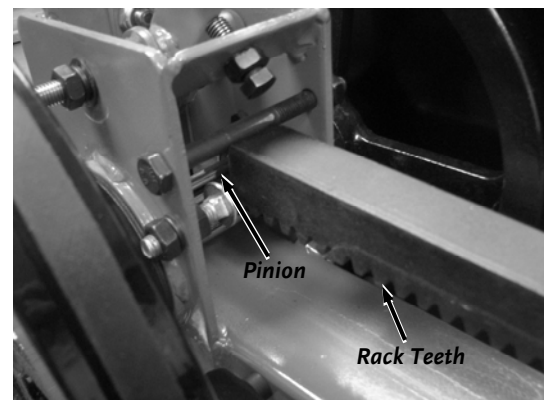

Figure 14
4. Pull the Rack out and grease the Rack Teeth, top side of the Rack and the Pinion (**Figure 14**).